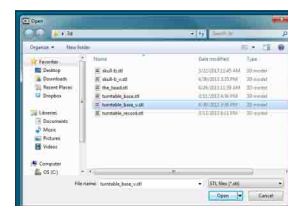

Fig. 66
2. Open your next .stl file. (Fig. 66)